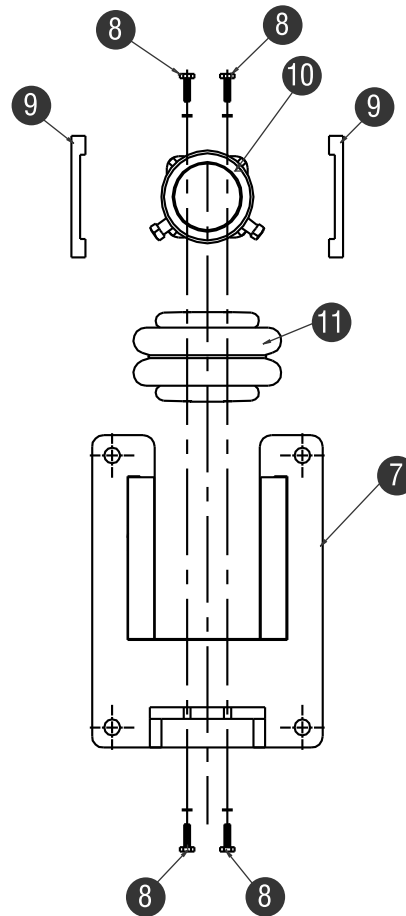

Figure 2. Air-Shoc Tensioner Parts Diagram
- With the Mounting Brackets attached, now assemble the Air-Shoc Tensioners as shown in *Figure 2*.